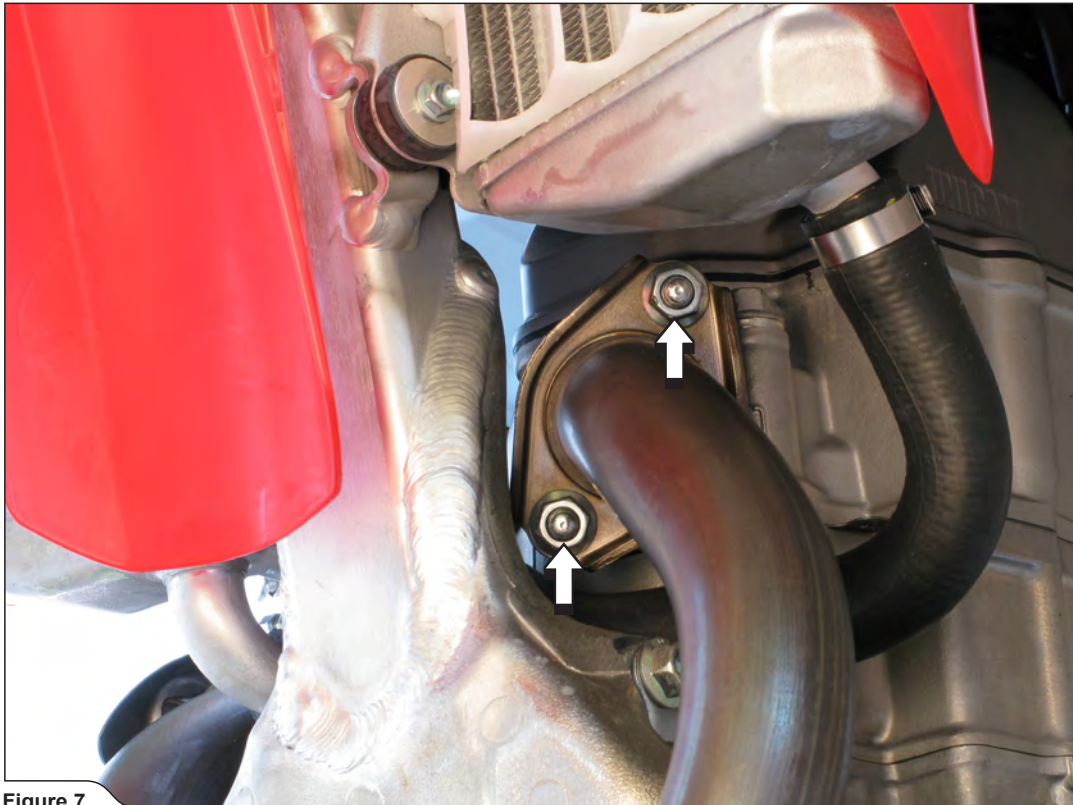

Figure 7
8. Unscrew the marked nuts and remove the stock header pipe off the motorcycle (**Figure 7**).